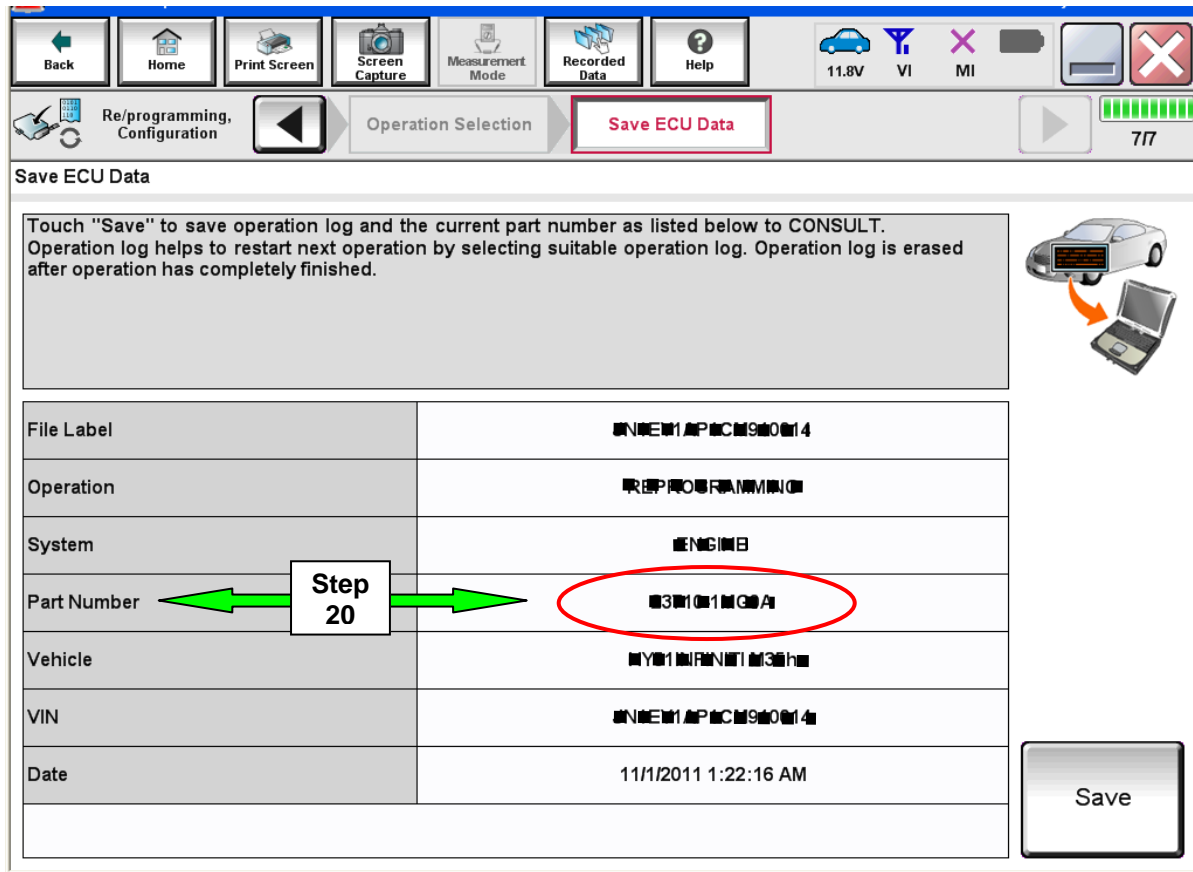

Figure 9
20. Find the ECM OR TCM **Part Number** (see Figure 9) and write it on the repair order.